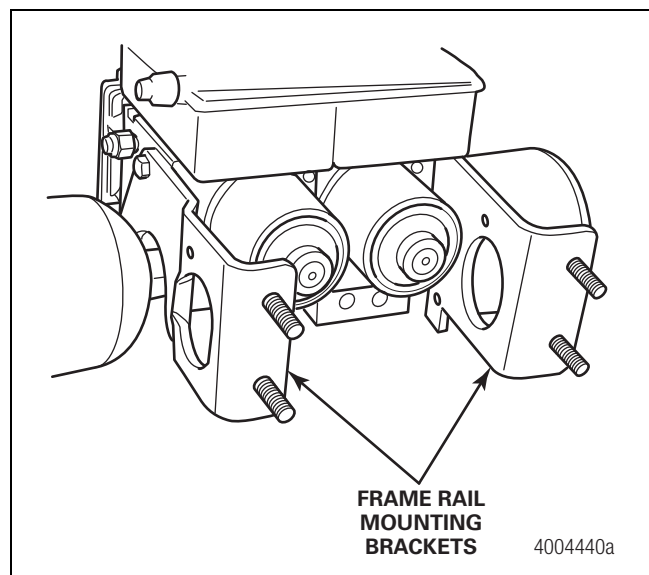

Figure 4.5
15. While supporting the HCU, loosen and remove the four nuts (two per side) that hold the HCU mounting brackets to the frame rail of the vehicle. Remove the HCU, with mounting brackets attached, from the vehicle. Figure 4.5.